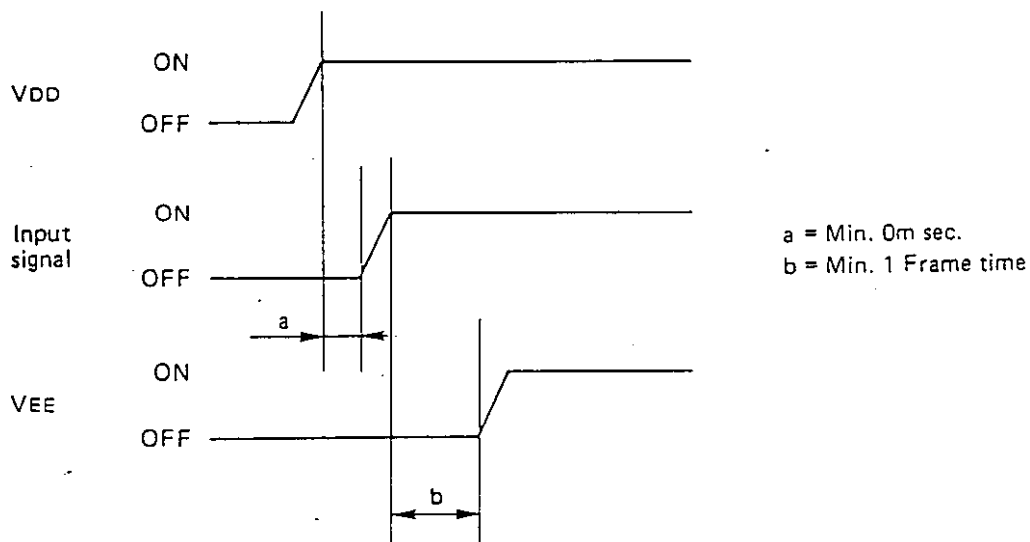

Fig 9-1
- (1) The ICs would break down if the drive voltage exceeds the limit. Make sure of electrical specifications, particularly the supply voltage.
- (2) The response of the display is slow when the ambient temperature is below the lower limit, and the display becomes unusual when the ambient temperature is above the upper limit. In any case, it does not mean failure. It operates properly in the normal operating temperature range.
- (3) The contrast of the liquid crystal display varies with the viewing angle, ambient temperature, and drive voltage. Adjust the drive voltage for the best contrast by installing external variable switch.
- (4) If you move the module from a cold storage into the room as during test, moisture would condense on the module and it might fail.
- (5) In order to prevent IC Latch-up and DC voltage on the LCD panel, please power on by the following Fig. 9-1.
- (6) Even when the module has worked normally, be sure to check if a noise level on each signal is within the specification (L level : less than $0.2V_{DD}$ and H level : more than $0.8V_{DD}$). If the noise level is beyond that specified figure, there is possibility to occur operational error statistically. Moreover, be sure to measure the noise level with the module kept connected.
- (7) As IC on the module, CMOS IC has been used and the input terminals do not incorporate a pull-up/pull-down function. So, avoid to keep the input terminals OPEN state during power ON condition.